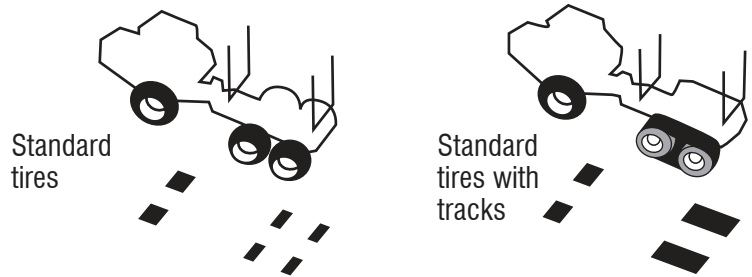

Figure 24. Using tracks reduces slip and increases flotation (photos courtesy of Tony Sauder, FERIC and Gunnar Bygdén, Olofsfors, AB).
- Tracks reduce slip and increase flotation as well as lower the maximum travel speed of wheeled equipment (**Figure 24**).